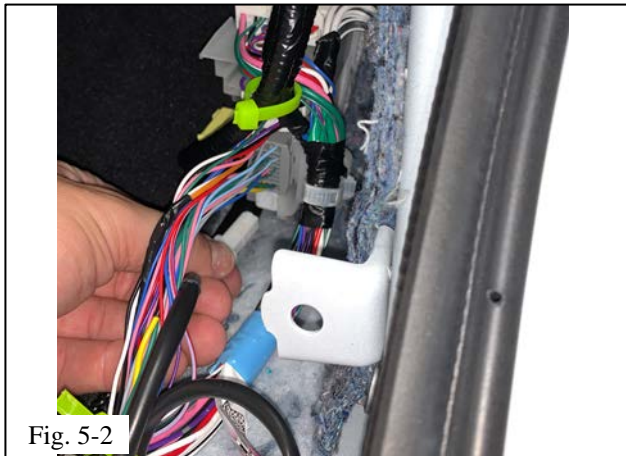

Fig. 5-2
- (c) Plug the sill harness connector into the bottom left port in the vehicle connector (Fig. 5-2).